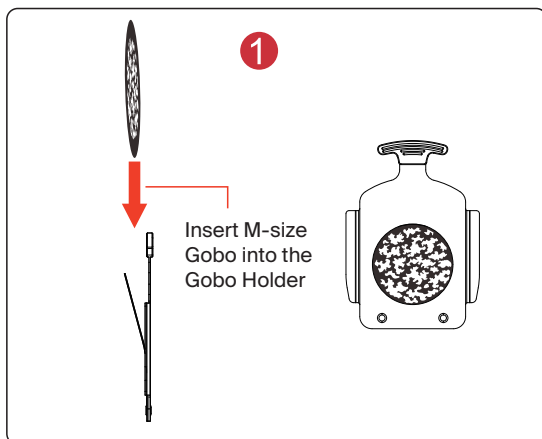

Figure 6
- 1) Insert an M-size Gobo (compatible with both metal and glass types) into the Gobo Holder, as shown in **Figure 6**.